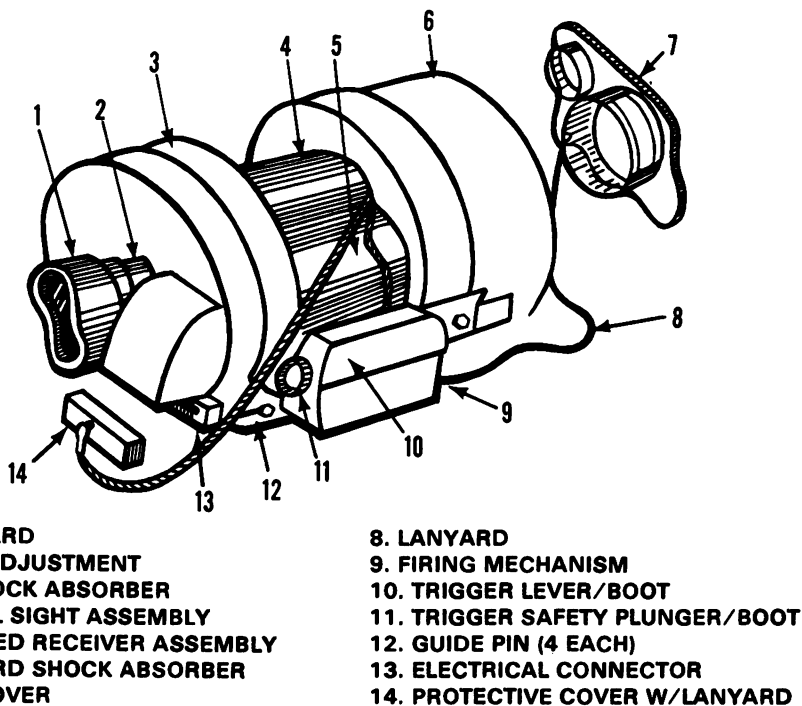

Figure 1.
- b. Hold the sight adjustment stationary while rotating the eyeguard to fit the eye (figure 1).